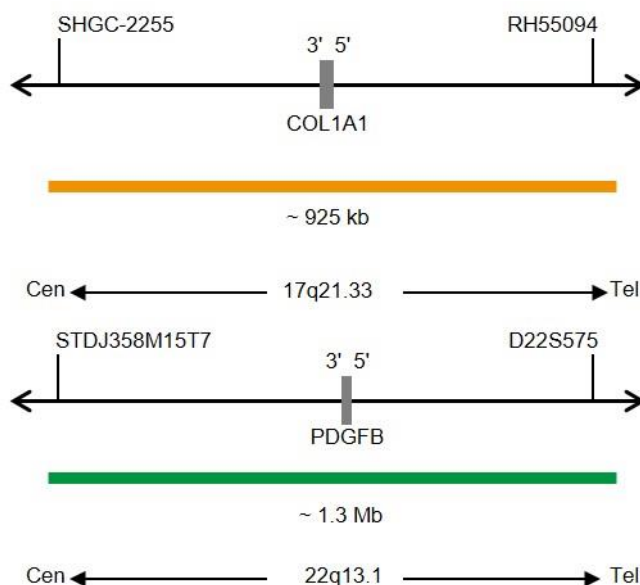

Fig. 1: Top: SPEC COL1A1 probe map; Bottom: SPEC PDGFB probe map (not to scale)
- ZyOrange (excitation 547 nm/emission 572 nm) labeled polynucleotides (~6.0 ng/ μ l), which target sequences mapping in 17q21.33* (chr17:47,820,343-48,744,021) harboring the COL1A1 gene region (see Fig. 1).
- ZyGreen (excitation 503 nm/emission 528 nm) labeled polynucleotides (~10.0 ng/ μ l), which target sequences mapping in 22q13.1* (chr22:38,928,973-40,267,687) harboring the PDGFB gene region (see Fig. 1).